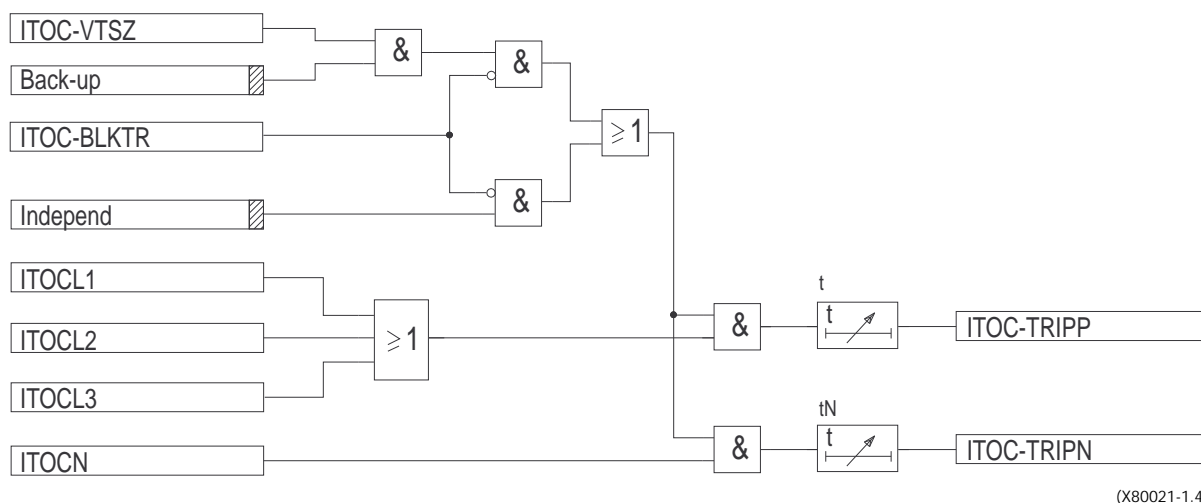

Fig. 1 Simplified block diagram of the overcurrent protection function
Fig. 1 presents a simplified block diagram of the ITOC function.
- 1.1 Check if the input and output logical signals as presented on the Fig. 1 are configured to the corresponding binary inputs and outputs of the tested terminal. If not, configure them for the testing purposes.